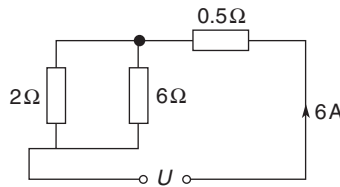

Fig. 19
- For the circuit of Figure 19, find